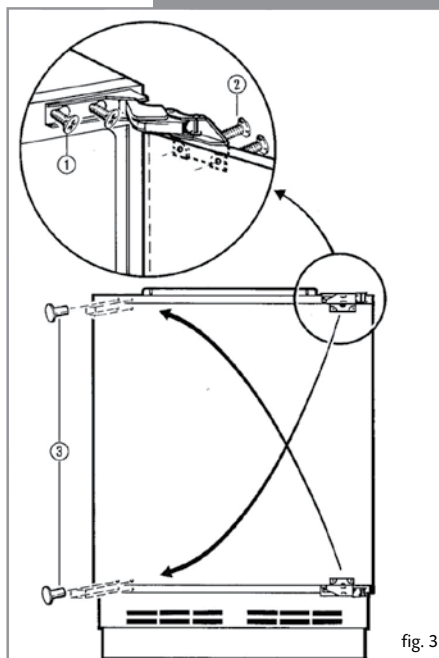

fig. 3
- Loosen the hinge fixing screws (1).
- Lever off the corner caps (3) with a knife blade.
- Insert the hinge fixing screws (1) on the opposite side.
- Remove the door fixing screws (2) and relocate the hinges according to figure 3.
- Locate the door on the hinge fixing screws (1) and tighten.